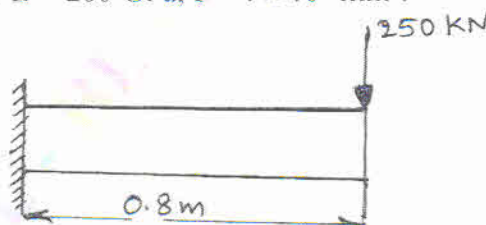

Fig.Q.5(b)
- b. A cantilever beam subjected to point load of 250 kN as shown in Fig.Q.5(b). Determine the deflection at free end. Take $E = 200 \text{ GPa}$, $I = 4 \times 10^6 \text{ mm}^4$. (10 Marks)